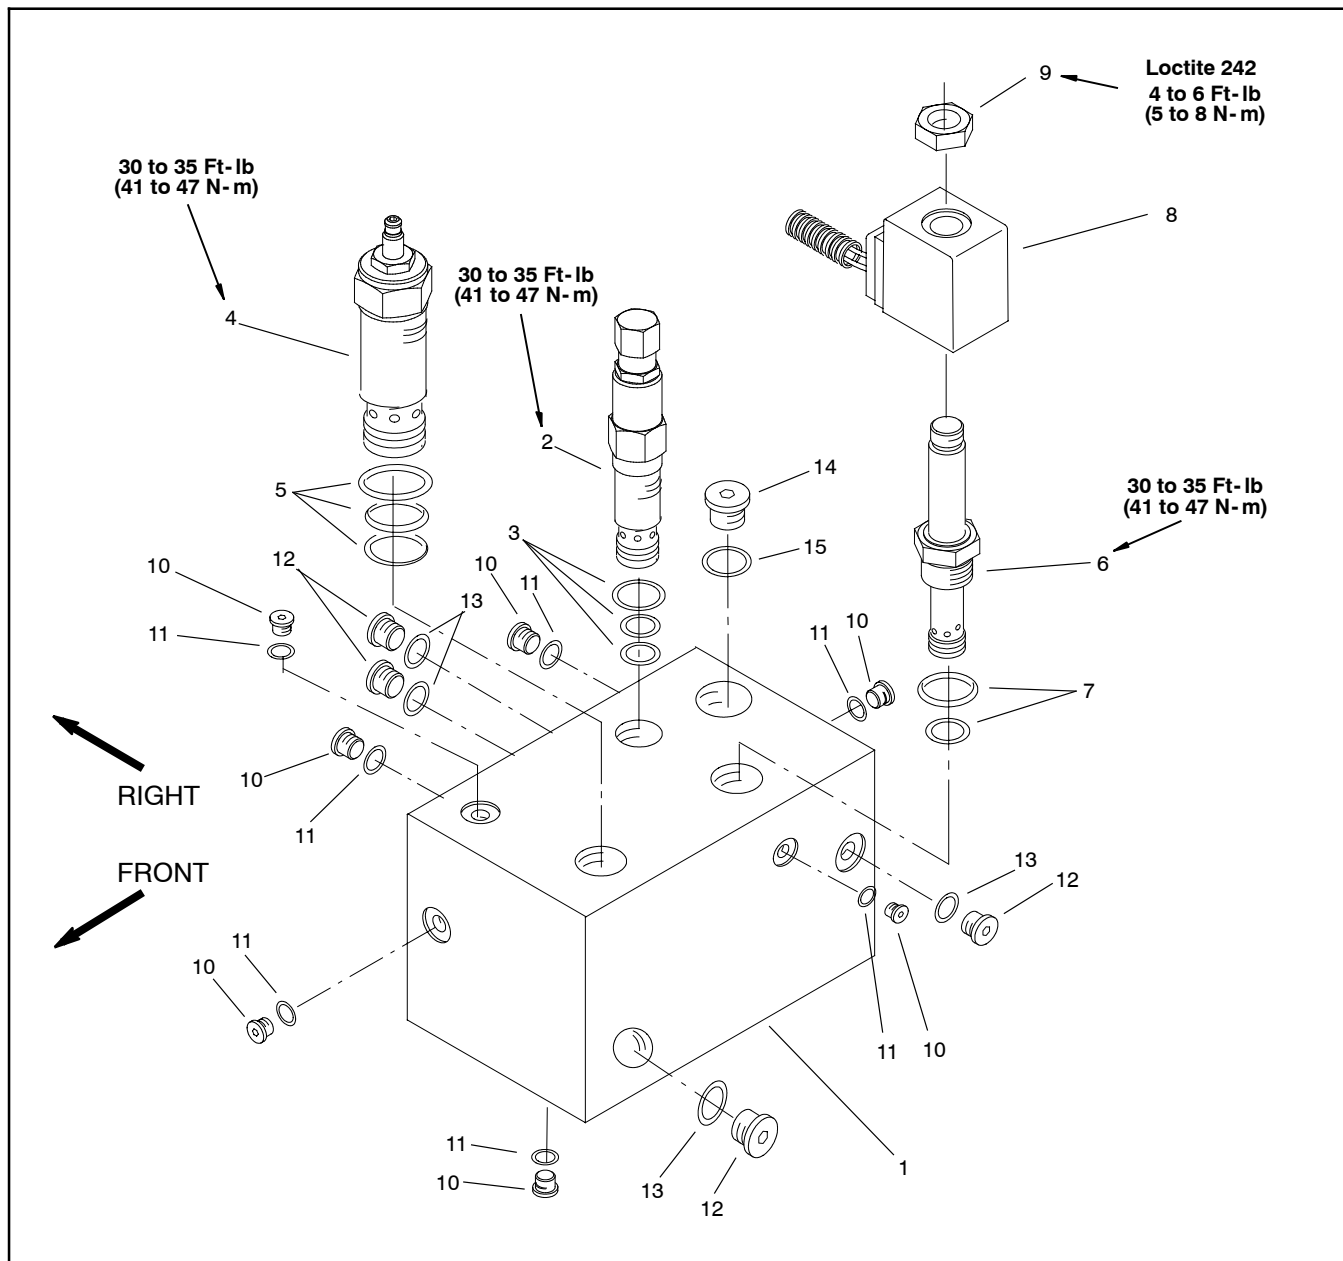

Figure 92
### SRV Cartridge Valve (Fig. 92 and 93)
## Braking and Logic Cartridge Valves (Fig. 92 and 93)
B. Thread cartridge valve carefully into the applicable port (Fig. 92). The valve should go in easily without binding. Torque valve to 30 to 35 ft-lb (41 to 47 N-m).